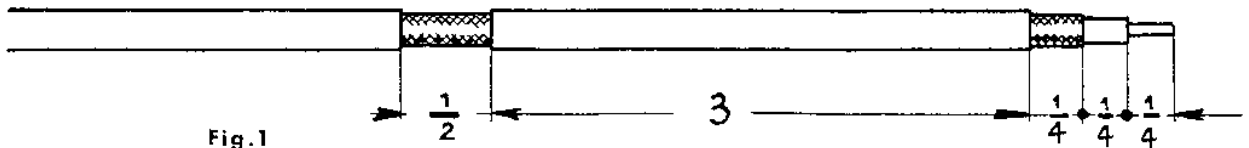
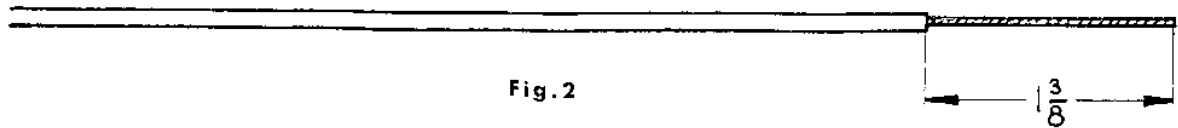

Fig. 1
Fig. 2
Construction is begun by mounting the parts on the terminal board as shown in Figs. 3 and 4. First, install the trimmer capacitor on side A of the board (Fig. 3--same side solder lug is on) as shown in Fig. 1. To do this, hold the top and bottom plates of the trimmer in the board as indicated and then slide the retaining terminal clip in place to secure the assembly*. Bend the terminal lugs away from each other on side B of the board. Then press fit the probe tip into the rectangular notch at one end of the board as shown in Fig. 2.
Construction is begun by stripping the co-axial cable and ground lead as shown in Figs. 1 and 2. Then position the ground lead in the spring and solder it to the spring as shown in Fig. 3. Now insert and position the co-axial cable in the spring, as shown in Fig. 3, and slip the rubber washer in place as shown in Fig. 4. Next, position the co-axial cable on the terminal board and then bend over the solder lug to grip the outside cable braid, all as shown in Fig. 4. (Fig. 6 is a profile view). Solder the connection, keeping in mind that overheating will soften the inner co-axial insulation with the consequent danger of a short. Then bring the stripped end of the ground lead (extending from the solder point on the spring) around the outside of the rubber washer and solder it to the eyelet which secures the solder lug to the terminal board. Finally, press fit the probe tip into the rectangular notch at the opposite end of the terminal board, as shown in Fig. 7, and solder the inner conductor of the co-axial cable to it as shown in Fig. 4.
- Page 2, Fig. 2: Change #18 next to the transformer to #12.